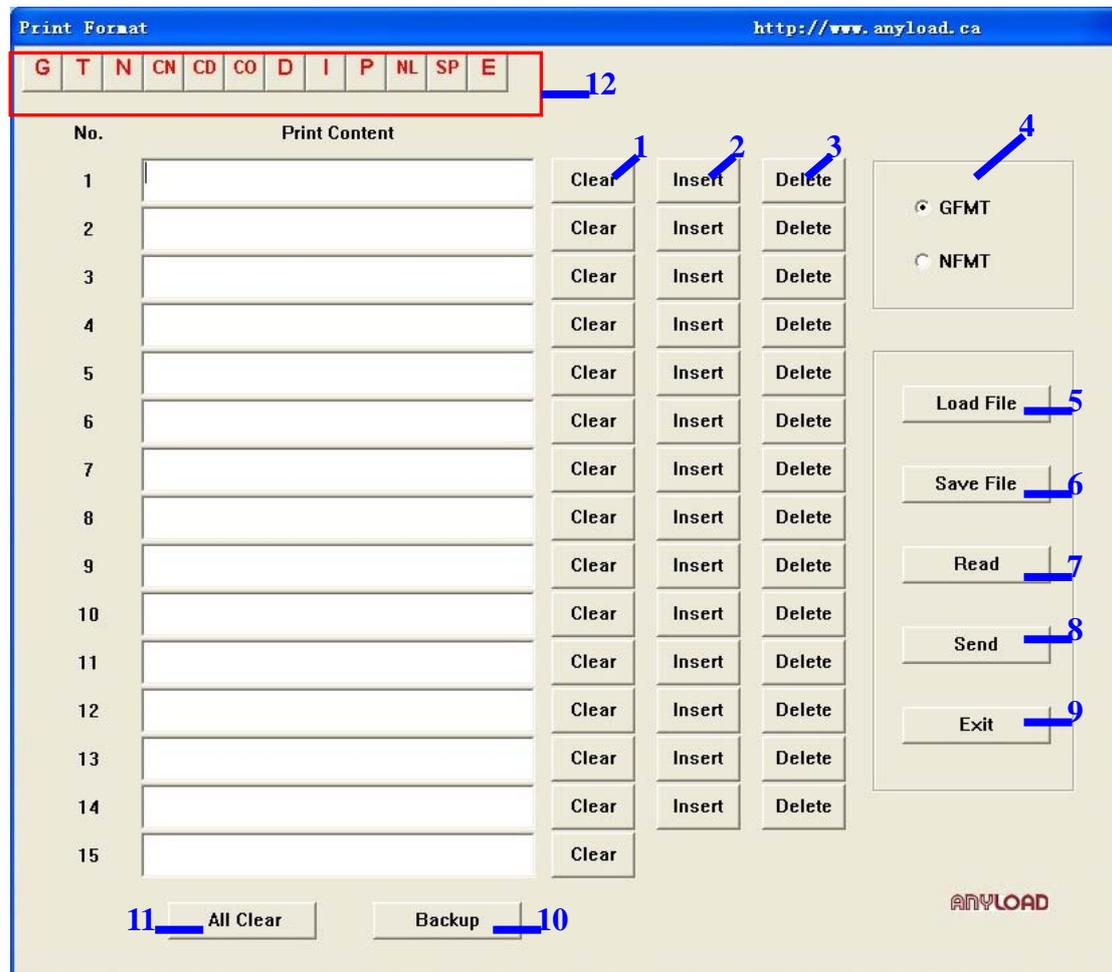

Figure 1-2 Set Print Format Interface
2— Print Format, Set print format, click and enter into the Print Format Interface(see figure 1-2).
1.2.2 Set Print Format Interface(see figure 1-2)